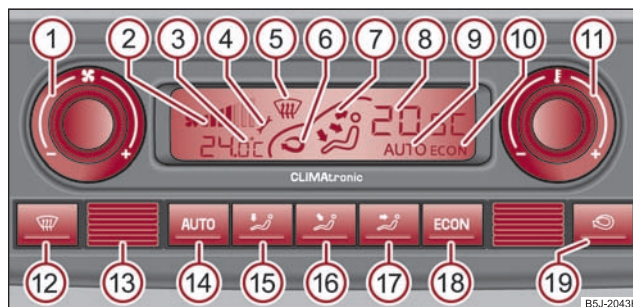

Fig. 121 Climatronic: Control elements
- Press the button **(AUTO)** ⇒ fig. 121.
Press and hold the buttons **(ECON)** and **(AUTO)** ⇒ fig. 121. The information in the desired temperature measuring unit appears in the display.
- Press the button **DEF** ⇒ page 96, fig. 121.
- Turn the control dial  ⇒ page 96, fig. 121 to the left (reduce blower speed) or right (increase blower speed).